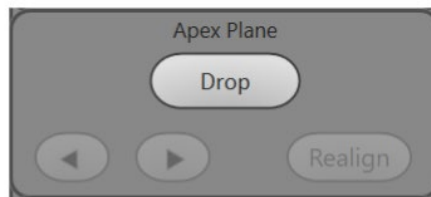

Figure 12-10: Adjust the Apex Plane
■ **NOTE:** If there is movement of the prostate after the solid red line is placed, use the Apex Plane arrow buttons on the Settings menu to move the solid red line to the tip of the apex (**Figure 12-10**).
■ **NOTE:** If the TRUS Cradle is moved so that the solid red line is no longer perpendicular in the sagittal view (parallel to the blue axial plane line), press the [**Realign**] button in the Apex Plane menu on the Settings menu (**Figure 12-10**).